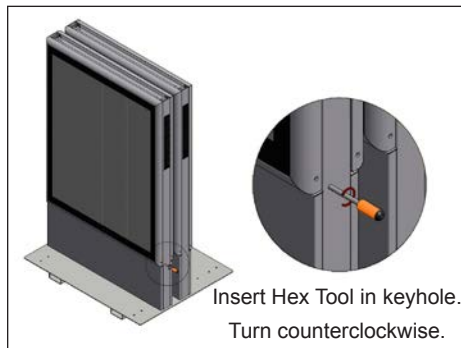

Figure 6: Open Display Door
1. Open the display door, insert the 5.5mm hex tool in the keyhole and turn counterclockwise. Refer to **Figure 6**.